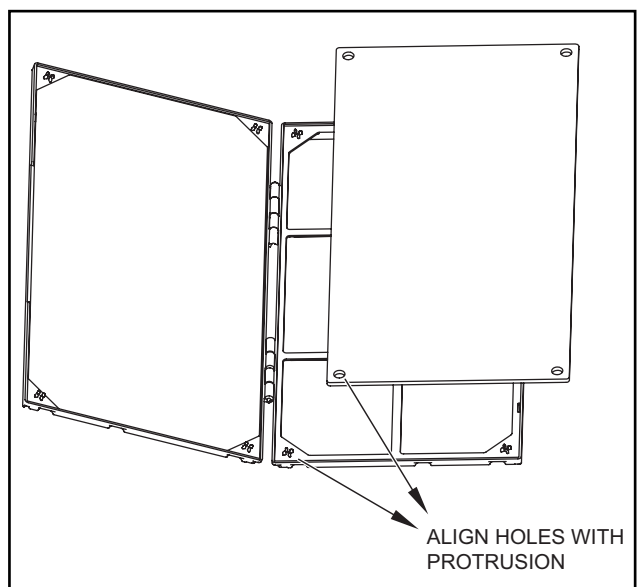

Figure C.7.5
STEP 4. (Optional) Place the new carbon filter on the top of the back filter frame. The carbon filter has been cut to the correct dimension and should fit within the frame as shown in Figure C.7.5.